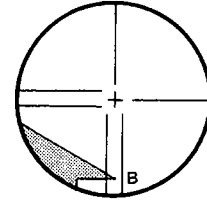

Fig. 13.18
- 2) Turn the telescope slowly upward with the vertical fine motion screw ③ until the target slides to the lower part B, Fig. 13.18. If the target is still centrally within the vertical lines no adjustment is necessary. If necessary, adjust as follows.